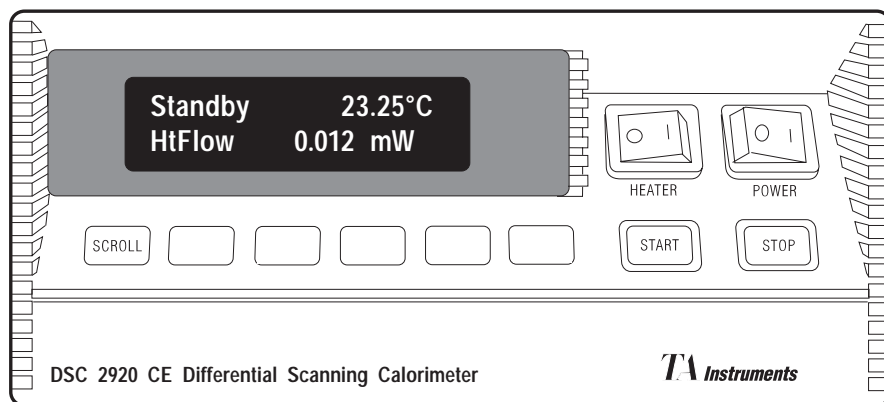

Figure 1.2
The DSC 2920 CE display is the lighted area above the keypad (see Figure 1.2). It contains two rows of 20 characters each.
The instrument keypad (see Figure 1.2) contains the keys found in Table 1.1 and the HEATER and POWER switches:
The HEATER switch (see Figure 1.2) turns the power to the instrument heater on and off. The switch should be in the ON (1) position before you start an experiment.
The POWER switch (see Figure 1.2) turns the power to the DSC 2920 CE on and off.